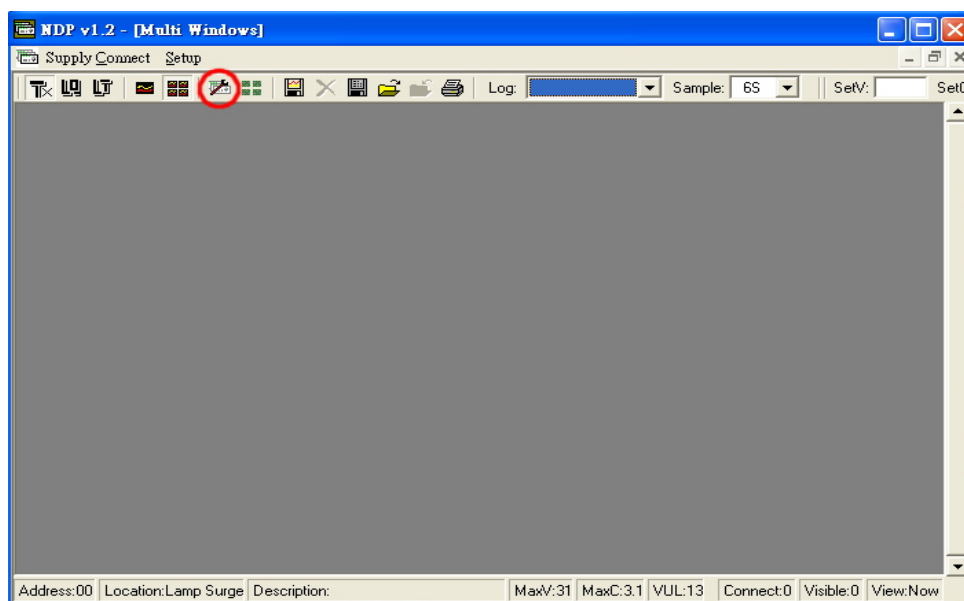

Figure . 6.5.2a
2. A *Multi Windows* (Figure. 6.5.2a) will appear.